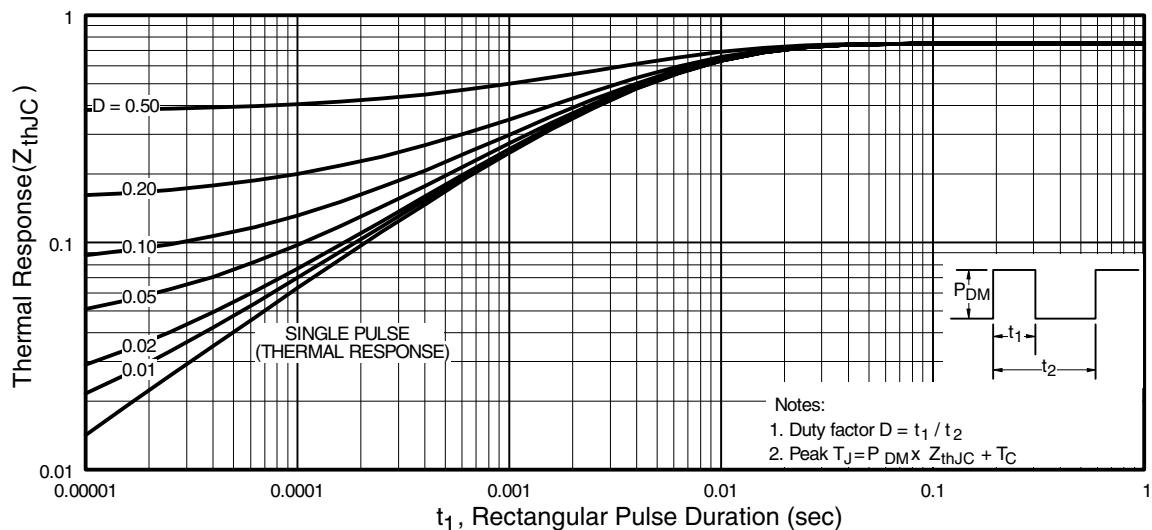

Fig 11. Maximum Effective Transient Thermal Impedance, Junction-to-Case
- ① Repetitive rating; pulse width limited by max. junction temperature. (See fig. 11)
- ② Starting $T_J = 25^\circ\text{C}$, $L = 138\mu\text{H}$